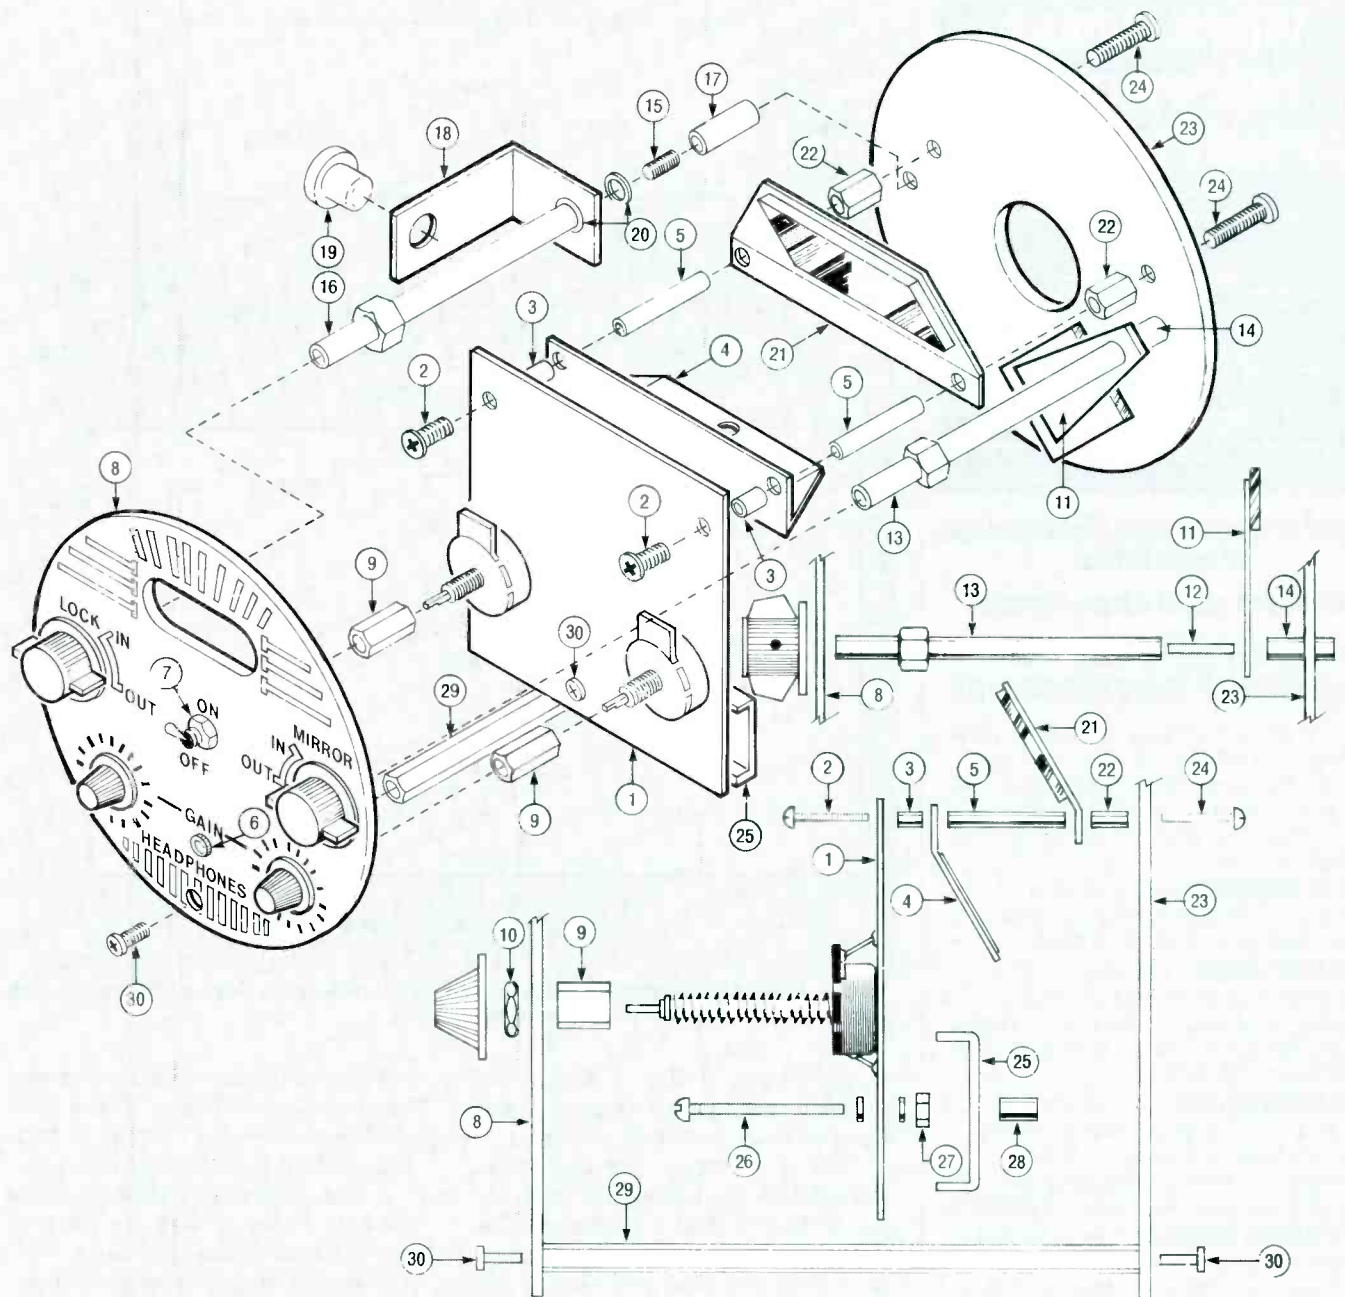

FIG. 2—THE RECEIVER is a little more complicated than the transmitter. Identify all parts before assembling them.
For the receiver assembly, use Fig. 2 as a guide. The PC board (1) should already have the headphone jack, the on/off switch, and the potentiometers attached. Put a 1/2-inch long Phillips-head screw (2) in both of the PC-board's holes. Put a 1/4-inch spacer (3) over each screw, put the viewing
PARTS LIST FOR THE RECEIVER (FIG. 2)
FIG. 2—TUNER/CONVERTER BLOCK DIAGRAM. The Zenith SX Series 175-2292A tuner/converter is the heart of the project. It accepts RF signals from about 55–553 MHz and downconverts them to a standard 63-MHz constant-level IF.